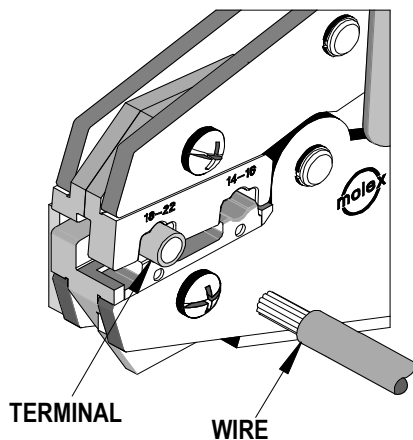

Figure 2
2. Partially close the tool to hold the terminal in place. See Figure 2.
3. Insert the properly stripped wire into the terminal barrel. See Figure 2 and 3. Cycle the tool.